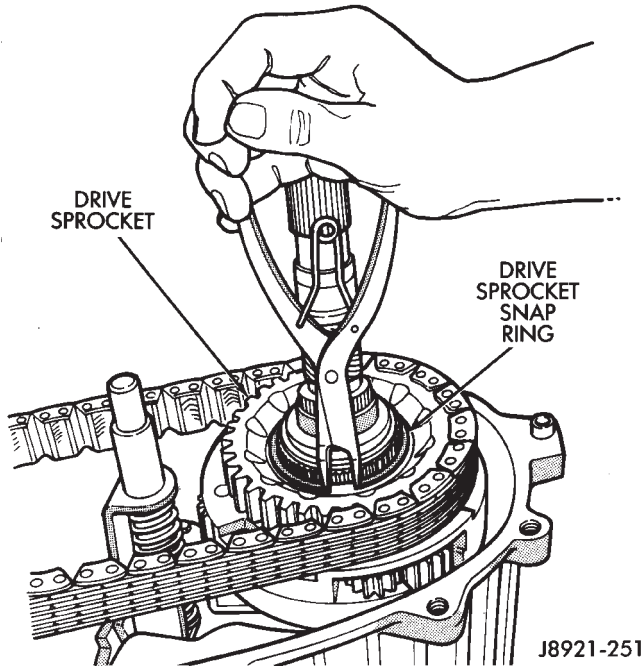

Fig. 84 Drive Sprocket Snap-Ring Installation
- (4) Install drive sprocket snap-ring (Fig. 84).